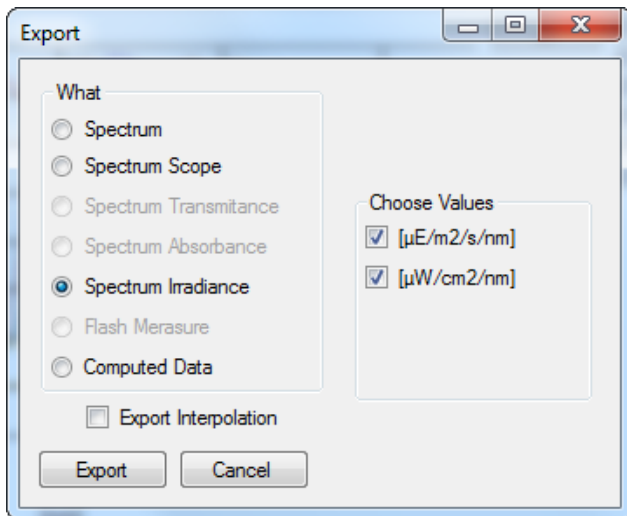

Fig. 36 Export of Irradiance spectrum.
**Spectrum Irradiance** – irradiance data for all measurements are exported. The user can choose to export the numeric values either in  $\mu\text{mol}\cdot\text{m}^{-2}\cdot\text{s}^{-1}\cdot\text{nm}^{-1}$ ,  $\mu\text{W}\cdot\text{cm}^{-2}\cdot\text{nm}^{-1}$  or both (Fig. 36).